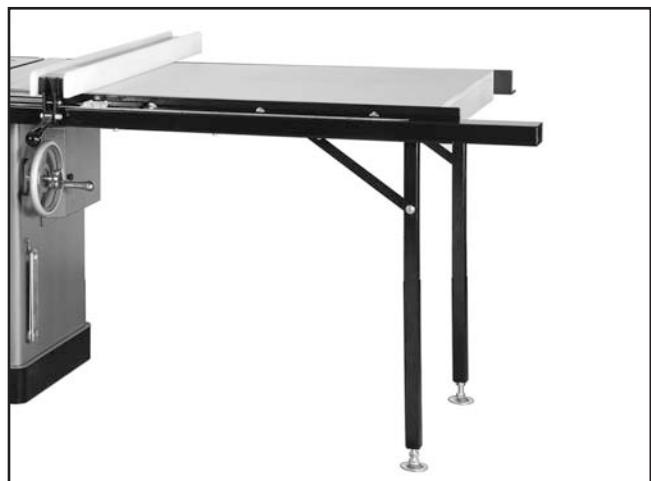

Figure 25. Extension table installed.
7. Adjust the extension table so it is flat (both flush and parallel) with the main table. This can be done by loosening the mounting bolts and adjusting the feet up/down as needed. **Figure 25** shows the extension table installed on the saw.